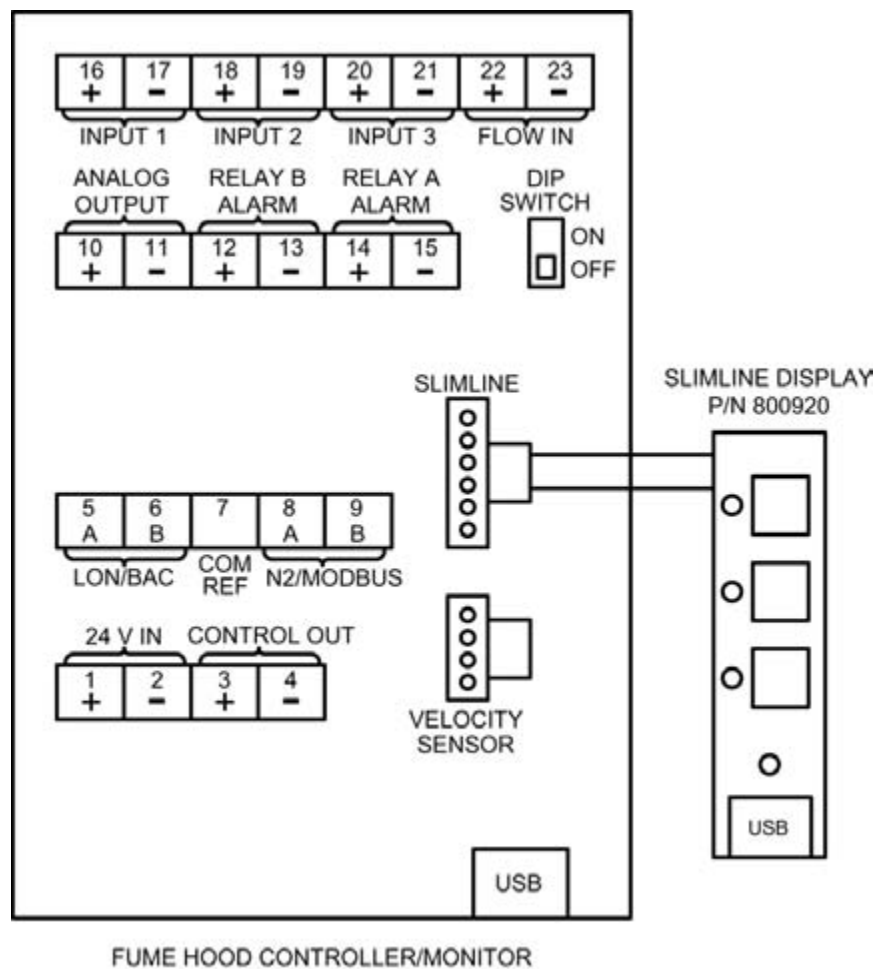

Figure 4: FHS5 Cable Connection to FHC50/FHM10
2. Note that the FHC50 Controller or FHM10 Monitor will be mounted in some other location on the fume hood. The cable connector end of the FHS5 Slimline Display should be routed to the FHC50/FHM10 location and connected to the back of that unit (Figure 4). The length of the FHS5 Slimline Display cable is 10 feet (3m).
6. Route the cable to the location of the FHC50 or FHM10 and connect the cable to the unit in the designated location (Figure 4).
3. Route the cable to the location of the FHC50 or FHM10 and connect the cable to the unit in the designated location (Figure 4).
The connection of the FHS5 cable to the FHC50 Controller or FHM10 Monitor is shown below (Figure 4).